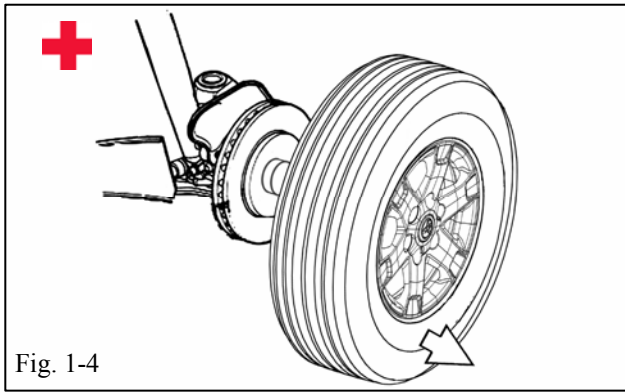

Fig. 1-4
- +** (d) Remove OE wheel and tire assemblies from the vehicle. Wear safety glasses while removing wheels. (Fig. 1-4)